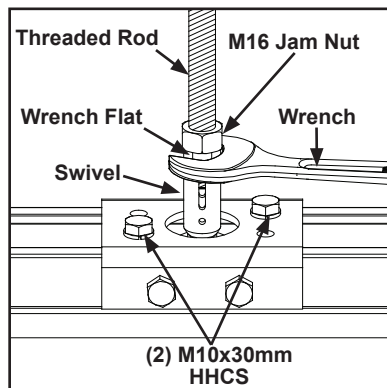
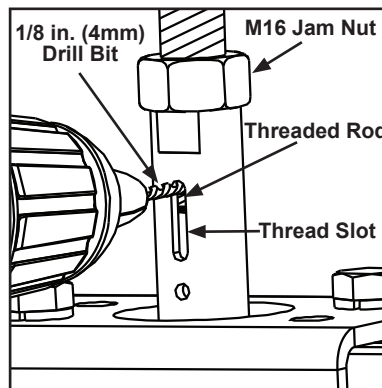

Figure 3-42
Figure 3-43
- Step 2. Verify threads are visible in thread slots when finished leveling system. See Figure 3-42.
- Step 3. Loosen two (2) M10 x 30mm HHCS and tap C-Channel bracket or rail bracket lightly with a hammer until threaded rod is perpendicular to rail.
- Step 4. Tighten two (2) M10 x 30 mm HHCS until lock washers are flat to lock mounting bracket to rail. Do not over tighten.
- Step 5. Tighten M16 hex jam nuts to each rod connector to lock rod into connector. See Figure 3-43.